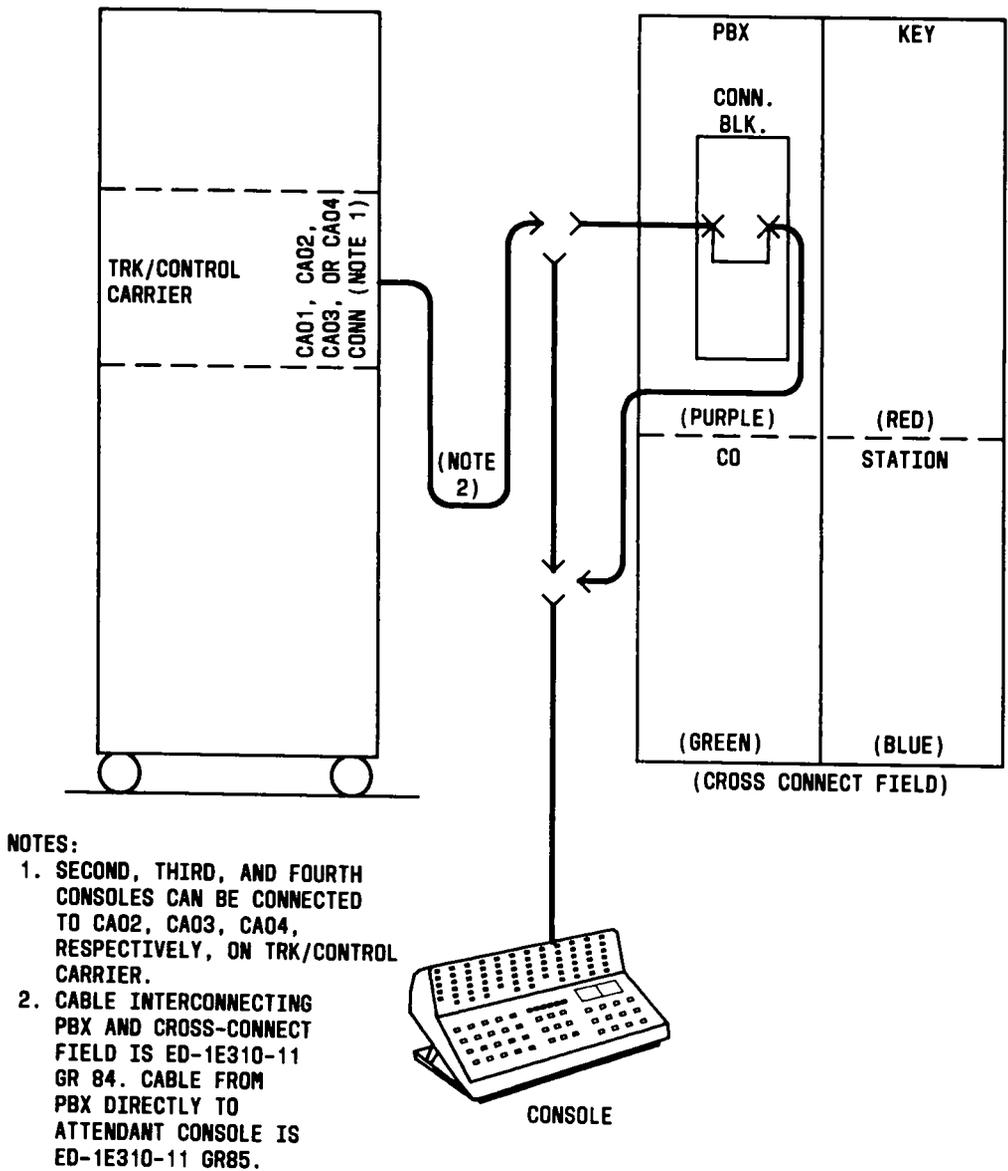

Fig. 11—Console Connected to the PBX via the Cross-Connect Field
5.18 The attendant console may be connected directly to the CA01 connector on the trunk/control carrier using an ED-1E310-11 GR85 cable or via a connector block in the cross-connect field using an ED-1E310-11 GR84 cable (Fig. 11). Second, third, and fourth attendant consoles may be connected to the CA02, CA03, and CA04 connectors, respectively, on the J58891AA-1 trunk/control carrier.